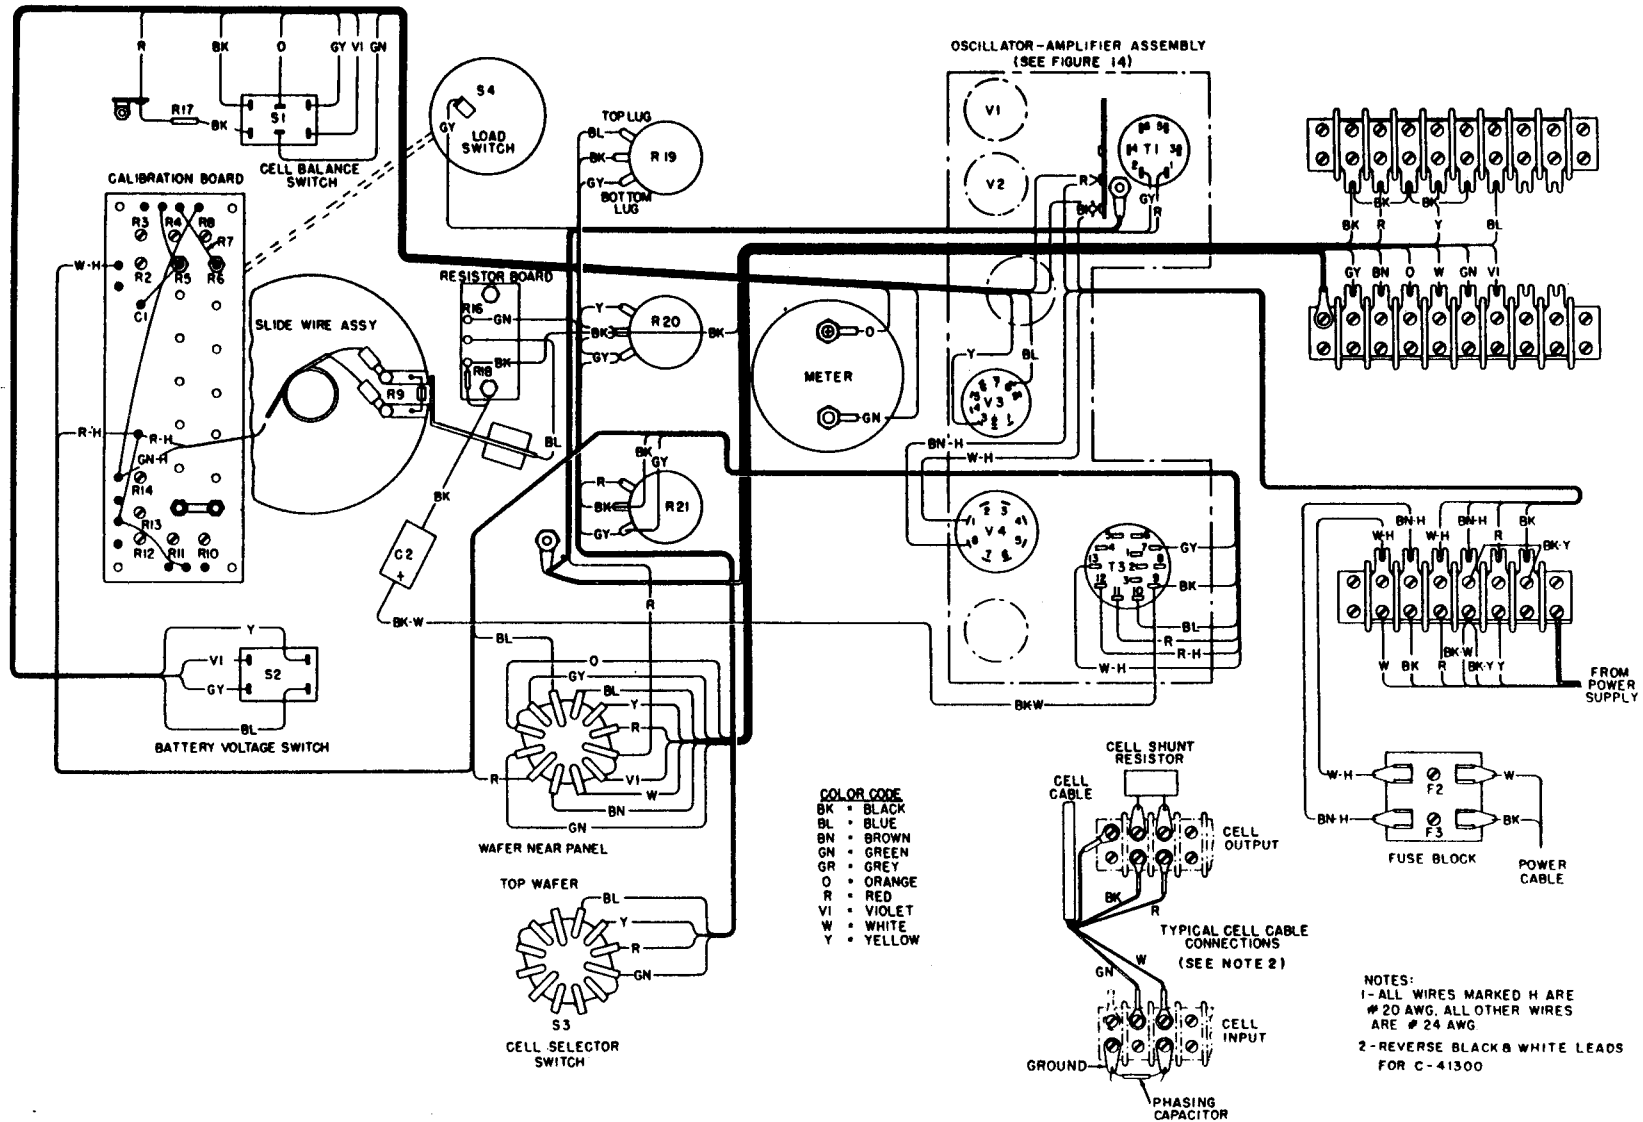

Figure 4-2. Indicator Assembly Wiring Diagram (Model C-1).
- b. Disengage helipots and pull out until restrained by cable harness. Unsolder three leads from helipot and label with tags marked TOP TERMINAL, MID TERMINAL and BOTTOM TERMINAL (figs. 4-2 or 4-3).
- d. Check electrical parts, referring to figures 4-2 through 4-9 and table 4-1.